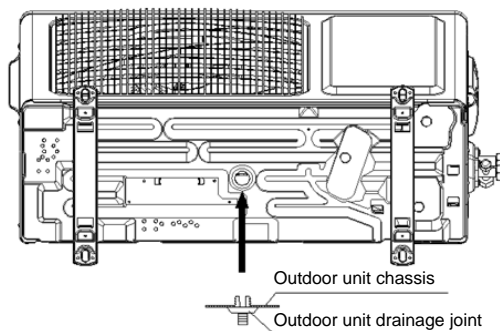

Figure 5-3 Drainage pipe connection
- (3) If a canopy is to be installed for the water heater main unit, note that the heat dissipation and absorption should not be affected.
- (4) The main unit must be installed in the host places a solid foundation, and ensure that the main unit is installed upright, and fastened with foundation bolts. If the vibration is strong, add rubber gaskets to prevent vibration.
- (5) Condensate drain of the outdoor unit: buckle snap the drainage joint of the outdoor unit into the drainage hole located in the middle of the chassis, as shown in Figure 5-3, and ensure reliable and tight fitting. Then, connect the drainage pipe to the drainage mouth, and guide the drainage pipe to a proper place for drain.